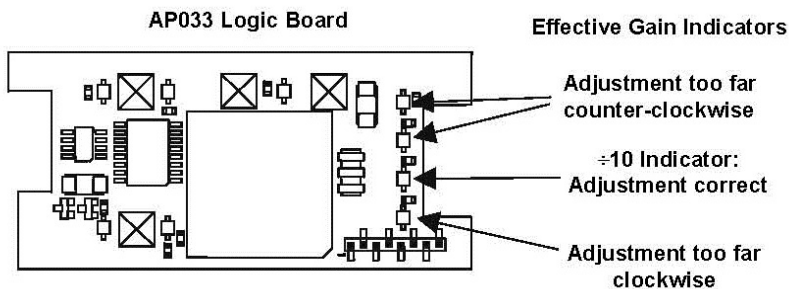

Figure 12, ± 10 Effective Gain Indicator
7. In Cal Mode, the **EFFECTIVE GAIN** indicators serve as an adjustment indicator. The EFFECTIVE GAIN indicators are located on the Logic Board (See Figure 12.) It may be necessary to hold the boards in your hands to see the indicators while making the adjustment.
5. Adjust **Attenuator CMRR (C18A)** for minimum amplitude shift of the displayed waveform at the trigger point in time. See Figure 12 for adjustment location.